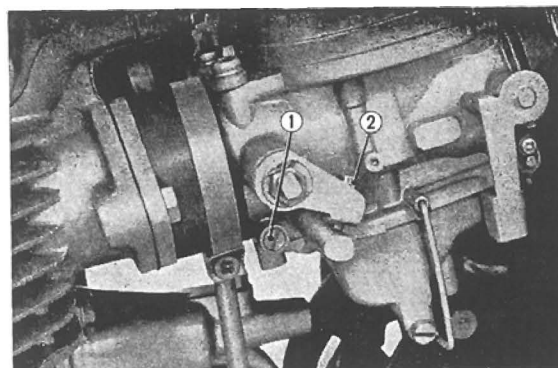

Fig. 6.27 Idling adjuster
(1) Idle adjustment
a. Adjust the stop screw ② so that the exhaust back pressure is the same for both the right and left side. If the engine speed does not decrease when the stop screw is screwed out, loosen the lock nut and screw in the cable adjuster by about one turn. The engine rpm at this point is between 1,000~1,200 rpm.
b. Starting with either the right or left carburetor, manipulate the pilot screw ① and find the point of highest rpm; the same should be done with the opposite carburetor. Turning the pilot screw in will give a high fuel air mixture, turning the screw out will give a lean mixture. The pilot screw ① should be set at a point $1\sim1\frac{1}{4}$ of a turn out from full close.
d. Repeat the procedures from paragraph (a) through (c) several times so that the pilot screw is set to provide the specified rpm and that the same exhaust back pressure is obtained at both the right and left sides. (Fig. 6.27)
(2) Synchronizing the throttle valve